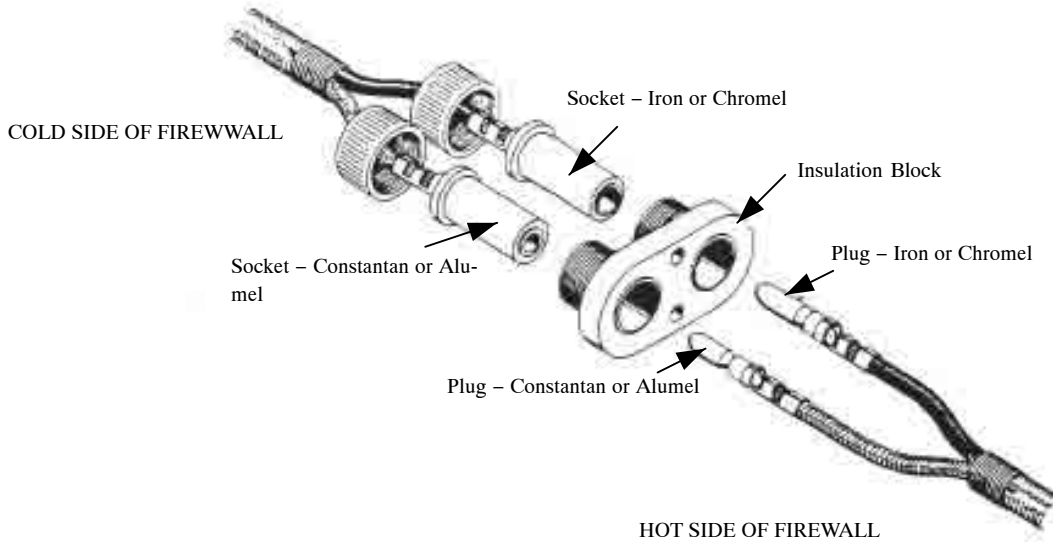

Figure 39. Thermocouple Connector Assembly (AN5537)
53. Thermocouple connector AN 5537 (Figure 39) is used to carry thermocouple connections through firewalls. This is a plug and jack connection, supplied with an insulating plate for attachment to the firewall. Plugs and jacks are supplied in chromel-alumel or iron-constantan combinations. The jack part of the connector is installed on the cool side of the firewall. The pin plug part of the connector is installed on the hot side of the firewall.